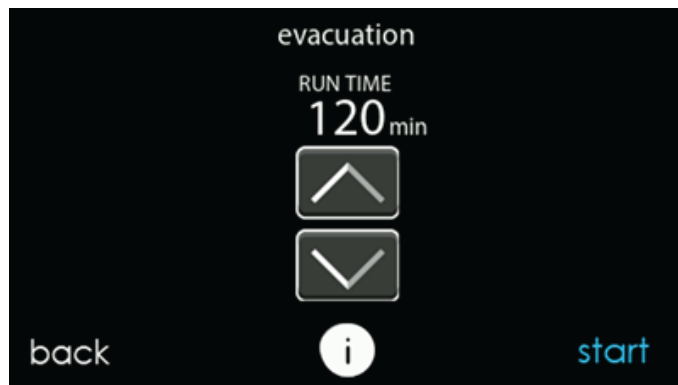

Fig. 43 – Evacuation Setup Screen
3. Set desired time period. Default time period for the procedure is 20 minutes. See Fig. 43.